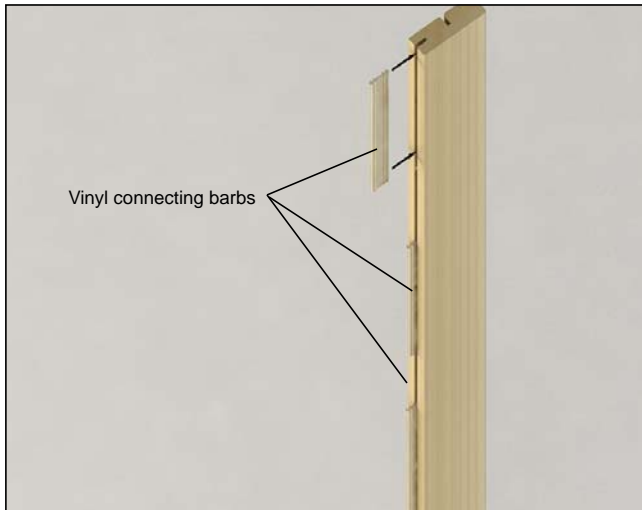

Figure 5
6. Insert the vinyl connecting barbs into the kerf on the HP cover. See figure 5.